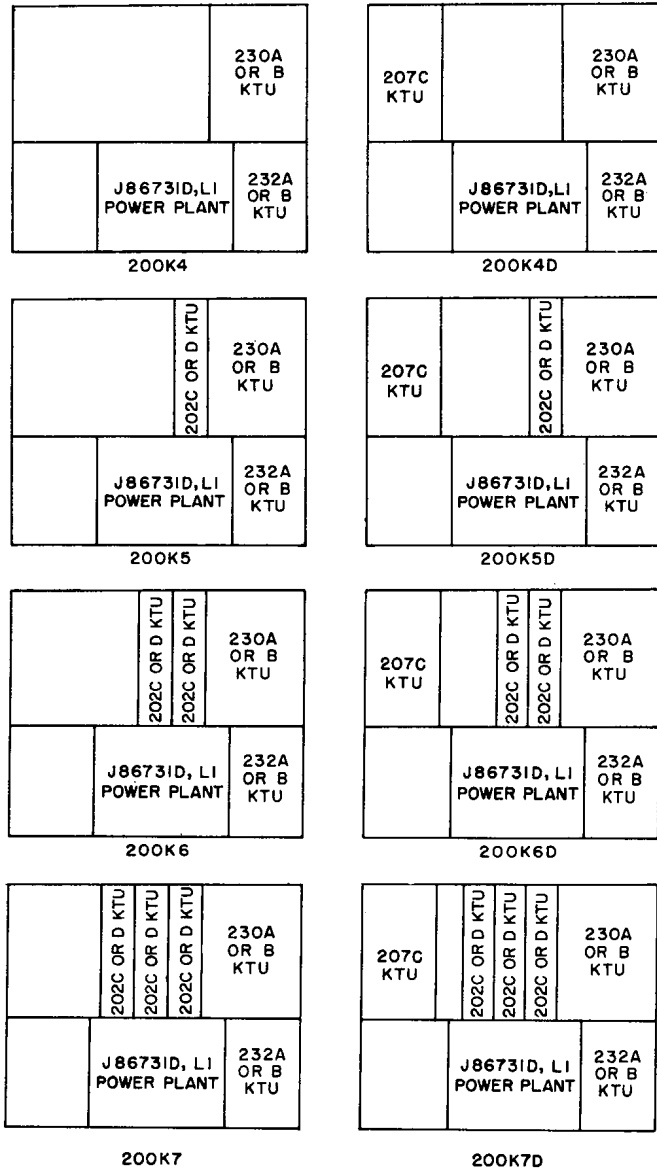

Fig. 2 — Block Diagram
2.05 Fig. 2 shows the arrangement, coding (without cable terminal), and key telephone units used in the 200K-type KTU.